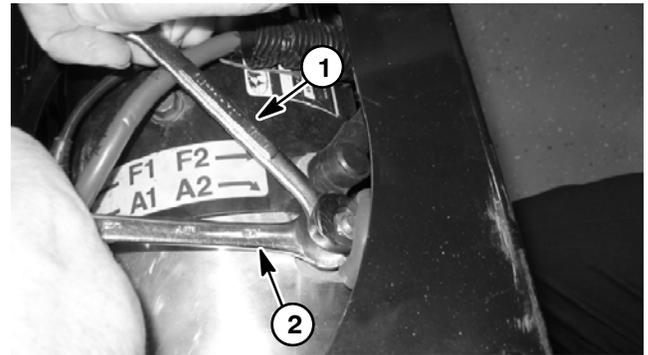

Figure 12
**IMPORTANT:** When removing cables from traction motor terminals (A1, A2, F1 and F2), use a wrench to retain lower nut before loosening upper nut (Fig. 12). If terminal studs are allowed to turn during upper nut removal, internal motor damage can occur.
**IMPORTANT:** When connecting cables to motor terminals (A1, A2, F1 and F2), use a back-up wrench to retain lower nut before tightening upper nut (Fig. 12). If terminal studs are allowed to turn during upper nut installation, internal motor damage can occur.